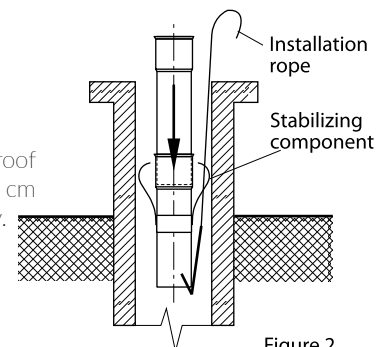
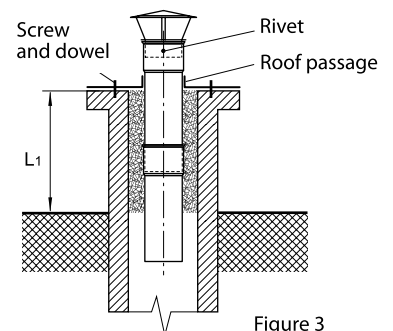

Figure 2
Figure 3
6. Transport the pipe elements, the roof passage and the chimney termination to the installation site (the installation is usually conducted from the roof level). Preassemble sections containing several pipes (according to the comments in items 4 and 5) and lower them down with the help of a rope (figure 2). Continue until the entire chimney is assembled and the first pipe is connected to the tee. To keep the entire structure tight, draw all connections (except for the last one) over the entire muff length. Insert the last element 85 mm deep into the muff.
10. When the boiler needs to be connected to the chimney with the use of additional elements such as pipes, knees, connections, use silicone on the connection as in item 5.
12. Where the ceramic chimney height over the roof exceeds 0.3 m (dimension L1 on figure 3), insulate the pipes of the chimney liner with the use of mineral wool or special insulation sleeves over the section of the chimney end to the level below the roof surface. Ensure such insulation also when the chimney passes through „cold”, unheated rooms (e.g. an attic).